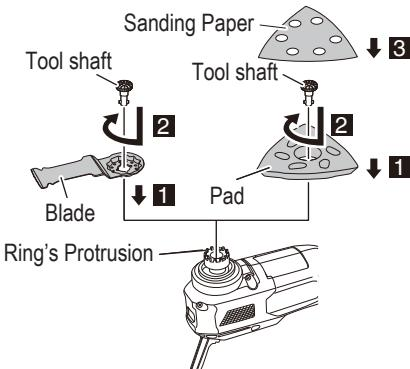

Fig. 10
- (3) Attach the application tool to the attachment ring, making sure the tool's hole is fitted to the ring's protrusion. The angle of attachment for the application tool can be set in 30° increments. (Fig. 10)
- (4) Firmly insert the tool shaft while rotating it clockwise. (Fig. 10)
- (6) Align the holes when sticking the sanding paper to the sanding pad. (Fig. 10)